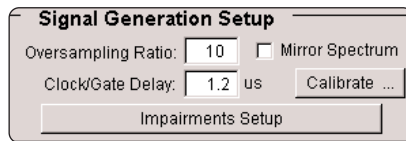

Figure 36. Signal Generation Setup menu with Clock/Gate Delay setting returned from the calibration utility.
- Place the marker at the desired Clock/Gate Delay setting using the Arrow buttons and select the Set Delay button. Then select the OK button. The Clock/Gate Delay setting associated with the current marker location is returned to the Clock/Gate Delay field (Figure 36) in the Signal Generation Setup menu and the calibration utility is closed.